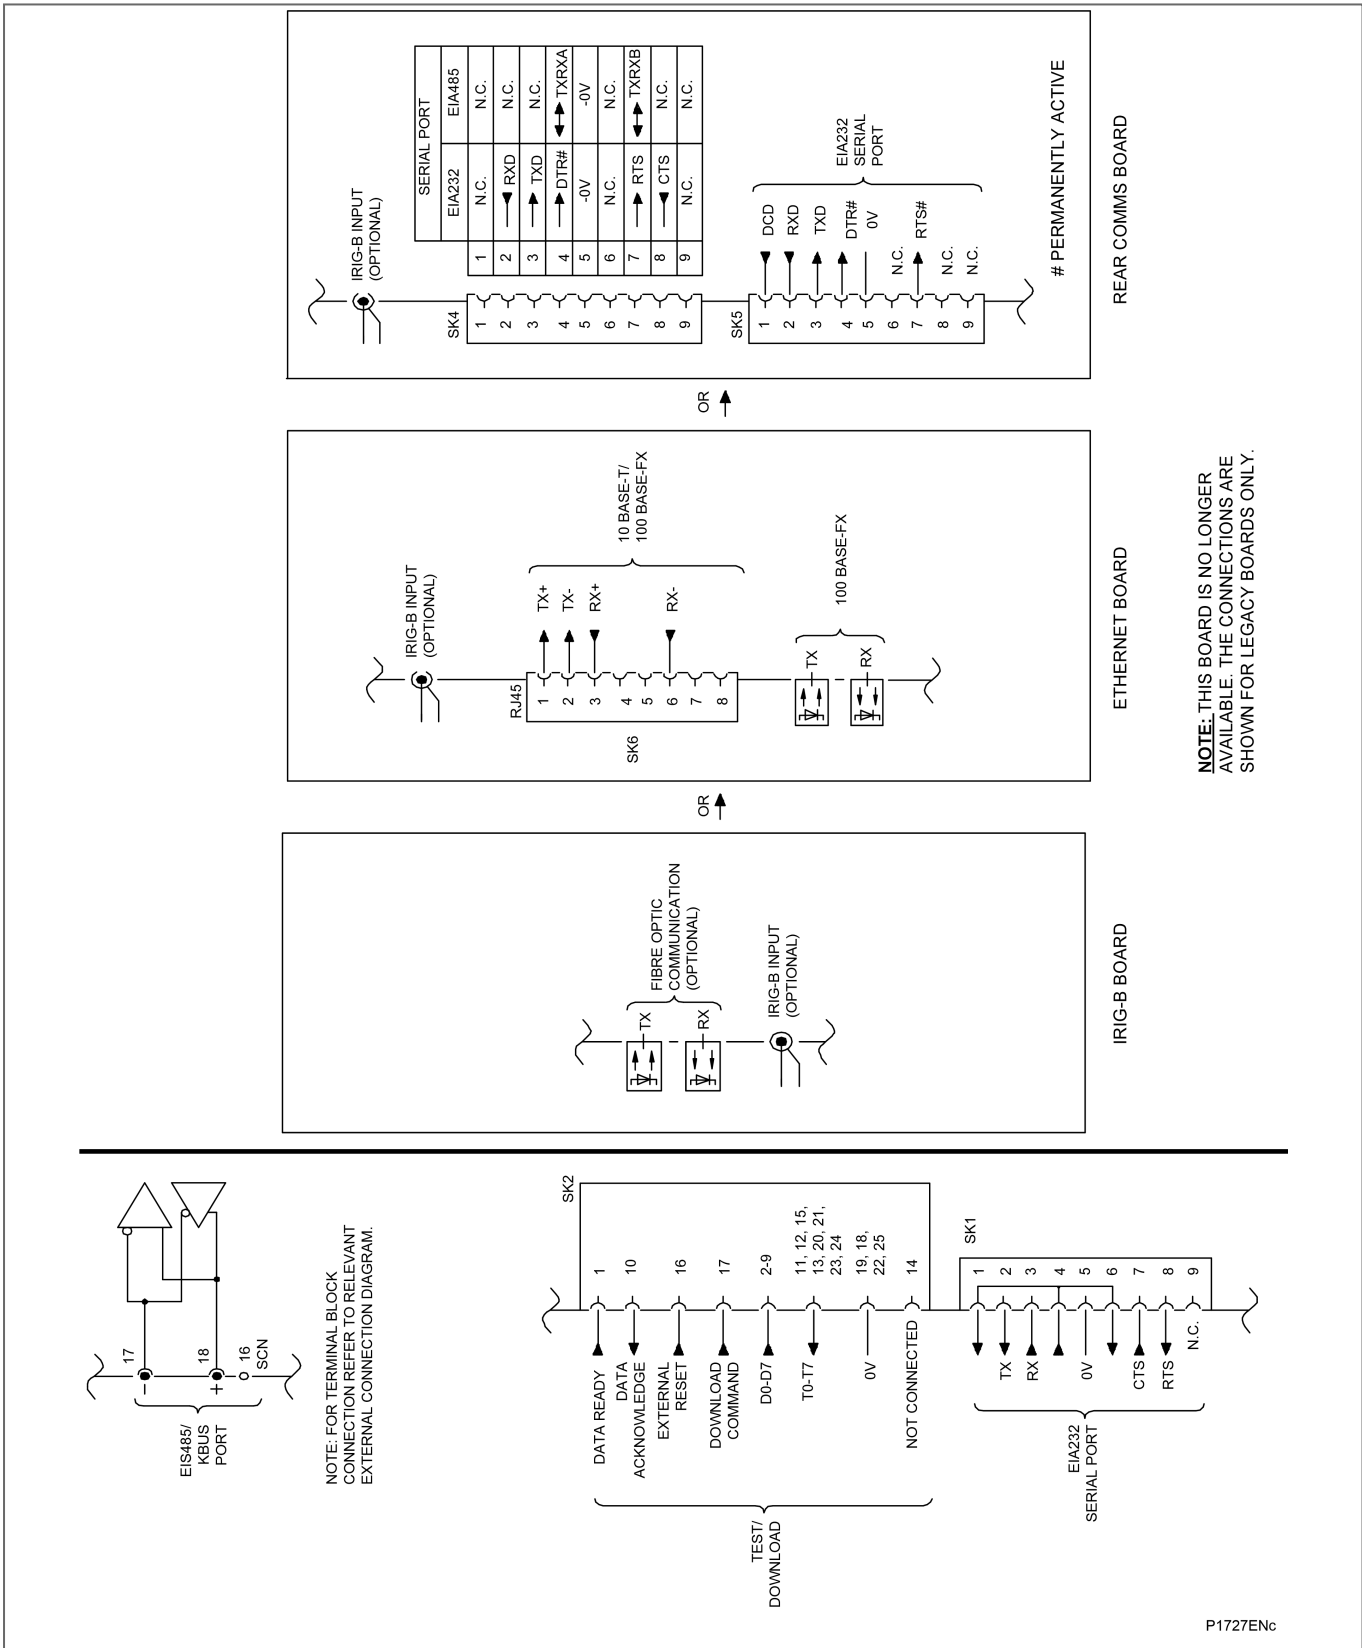

Figure 1 - Communications Options MiCOM Px40 platform
- Figure 1 - P543 - external connection diagram – 16 inputs/14 standard outputs
- Figure 1 - P543 – external connection diagram – 16 inputs/7 standard and 4 high break outputs
- Figure 1 - P543 – external connection diagram – 16 inputs/24 standard outputs default mapping
- Figure 1 - P544 - external connection diagram - standard outputs
- Figure 1 - P544 - 16 inputs/outputs default mapping - 14 standard outputs
- Figure 1 - P544 - 16 inputs/outputs default mapping - 7 standard and 4 high-break outputs
- Figure 1 - P545 - external connection diagram - standard outputs
- Figure 1 - P545 - 16 standard and 8 high-break outputs